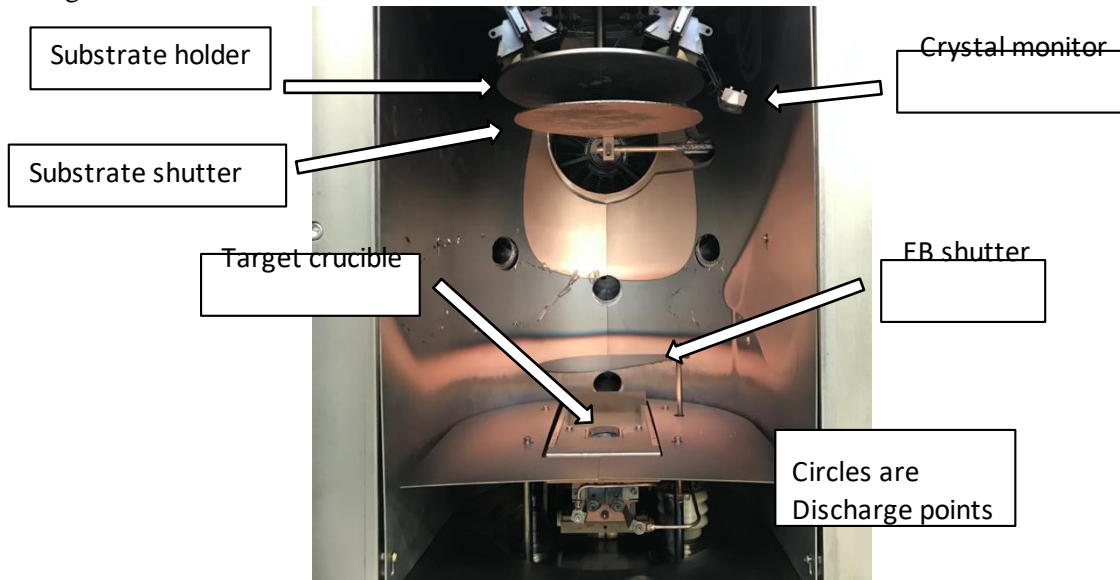

Fig. 2: Process chamber with major functions labeled
- c. Before opening the process chamber (PC) door, hold the grounding wand (left side of tool) in your hand to ensure you remember to use it.
- d. Open the door and discharge five places: (See Fig. 2)
- f. Remove the substrate holder and mount your sample: (See Fig. 2)